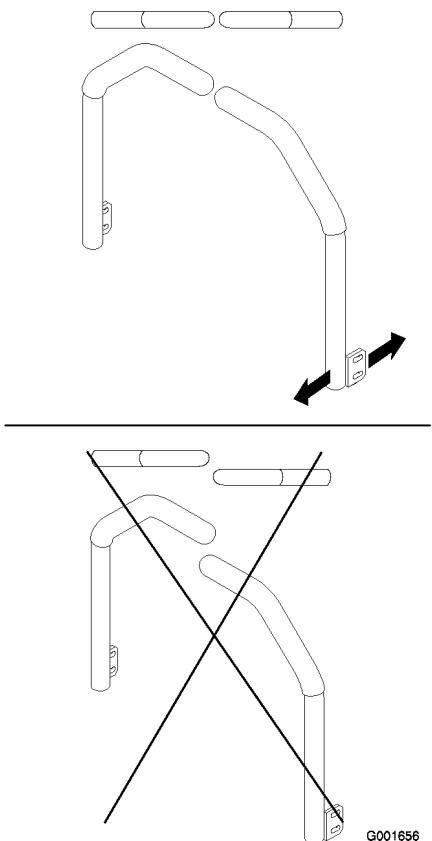

Figure 47
4. Align the levers front to rear position by bringing the levers together to the neutral position and slide them until they are aligned, then tighten the bolts (Figure 47).